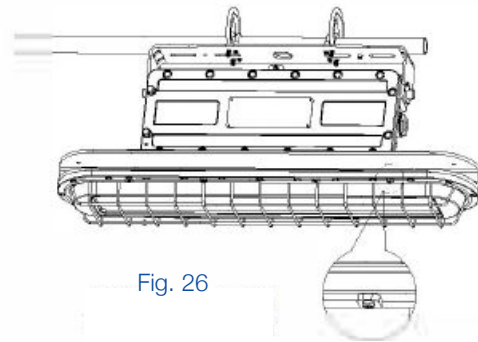

Fig. 26
3. Secure the wire guard with screws (Fig. 26).